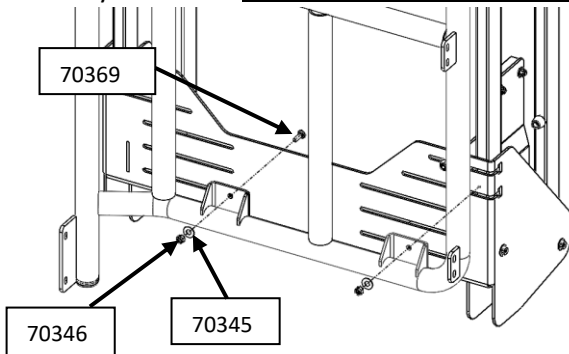

Figure 2: Lower Tray Installation Gusset Bolts
3. Use 2x 5/16" Carriage bolts (70369), 2x 5/16" washers (70345), and 2x Nylock nuts (70346) to secure the Power Lift lower assembly to the Base Unit. Route the Carriage bolts through the holes in the lower gusset of the Base Unit. Assemble as shown in Figure 2. Note the orientation of the bolts MUST be installed exactly as shown. **DO NOT TIGHTEN THESE YET.**